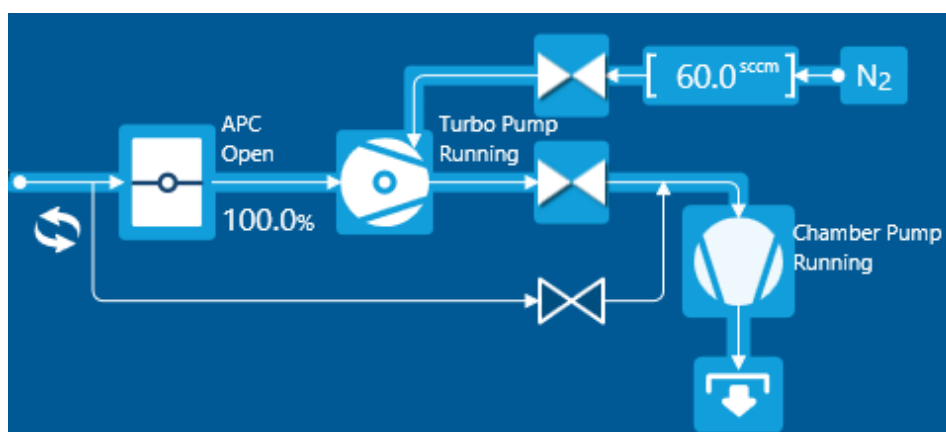

Figure 6-11 APC fully open
- 2 Check that the APC is fully open (see Figure 6-11).